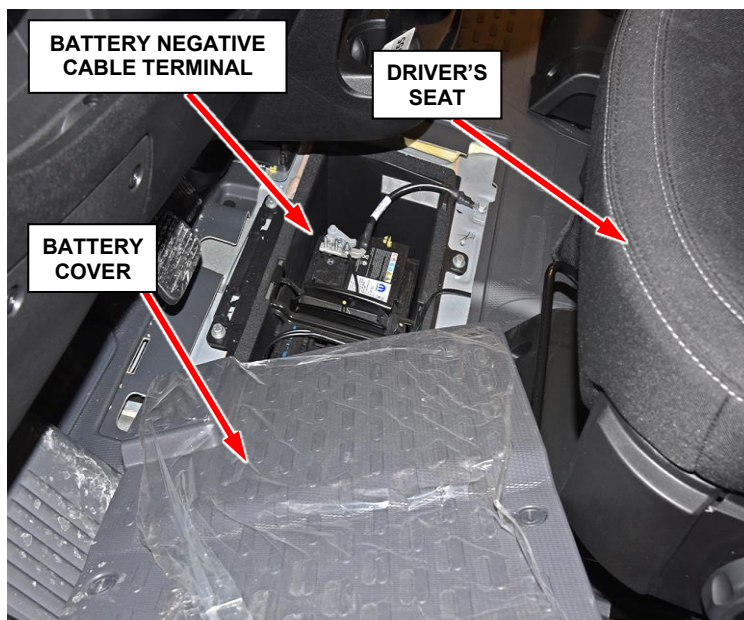

Figure 9 – Battery Cover and Negative Cable
2. Remove the battery cover (Figure 9).
3. Loosen the battery negative cable terminal clamp then remove and isolate the negative cable terminal from the battery post (Figure 9).
31. Connect and secure the battery negative cable terminal clamp to the battery negative post (Figure 9).
45. Install the battery cover (Figure 9).